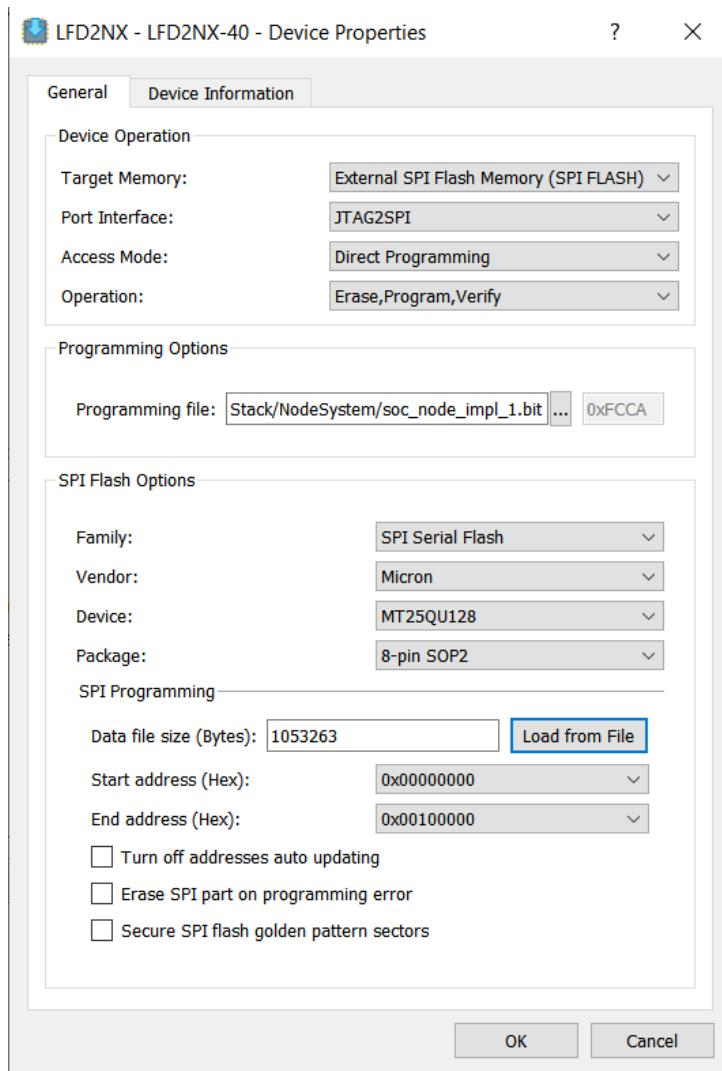

Figure B.15. RADIANT Programmer - Bit Stream Flashing Settings (Node System)
8. To program the bitstream file, select the options as shown in Figure B.15.